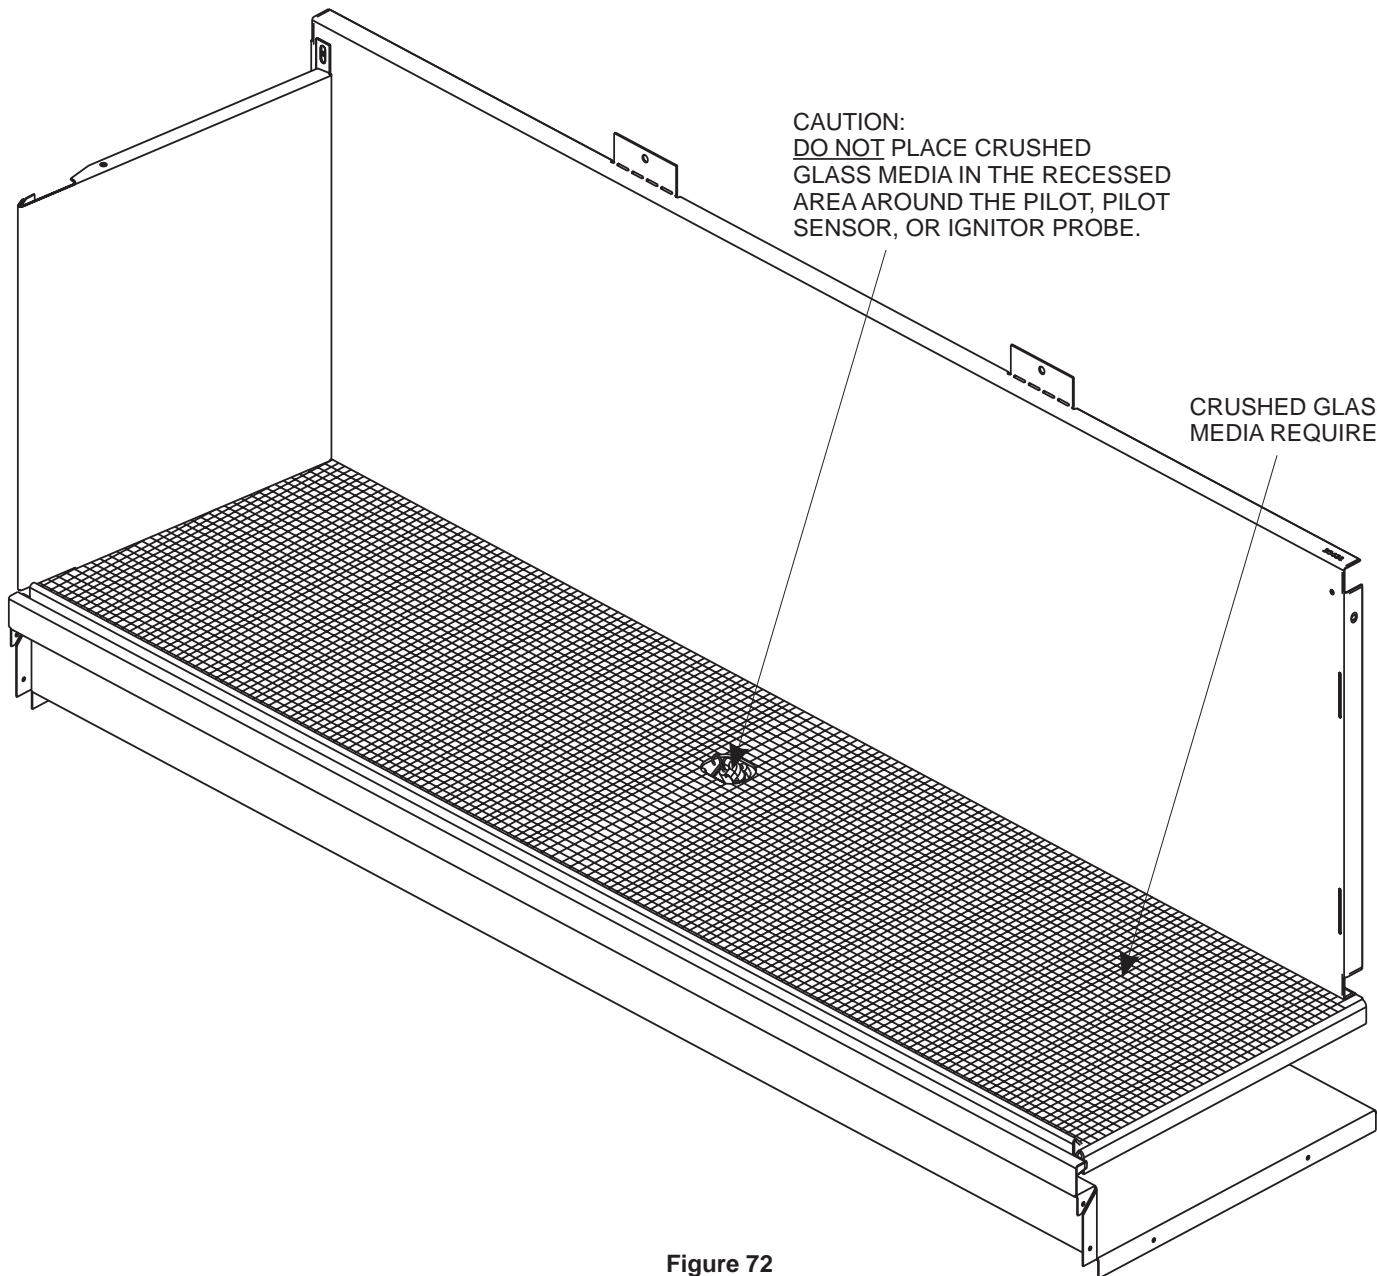

Figure 72
2. Place crushed glass media over the burner screen in a single layer. Use just enough crushed glass media to mask the burner screen. **See Figure 72.**